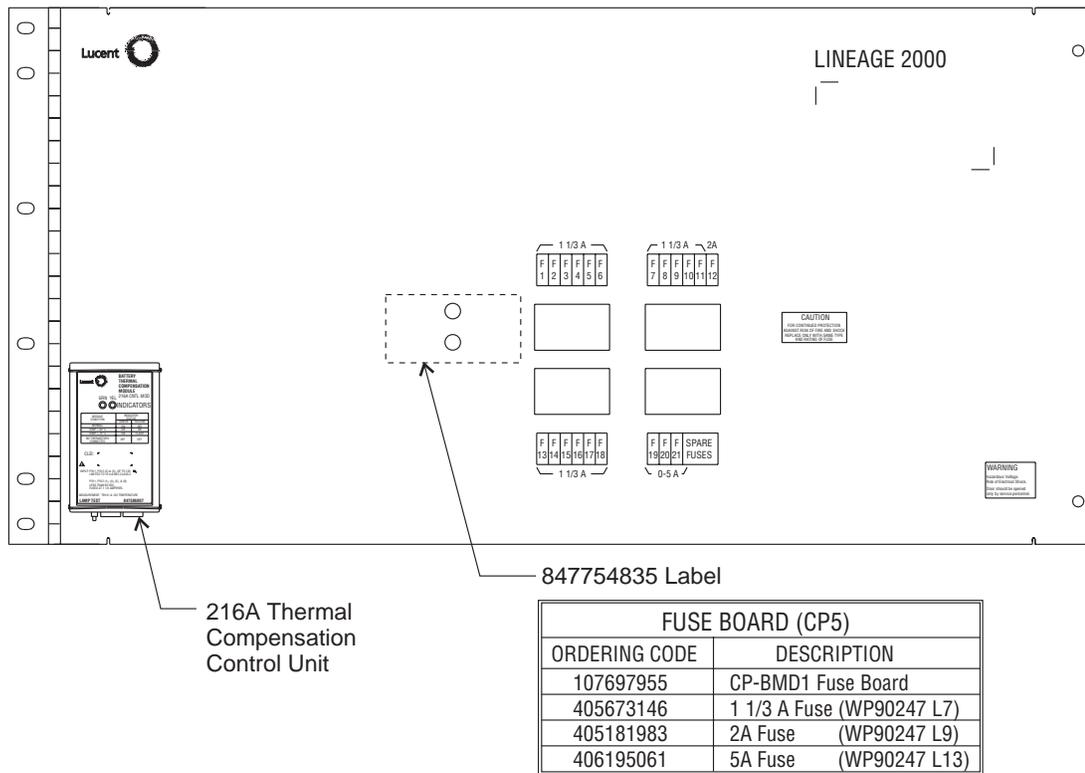

Figure 4-9: Door panel (placement of control unit, option 2)
Mount the VR Module bracket to any one of the available 1/4-20 Pem-nuts in the battery stand upright. Then attach the Terminal Block Assembly Base to the VR Module bracket with the 10-32 screws provided. (See Figure 4-9.)
Option 2: Mount the 216A Control Unit on the distribution door panel (lower left corner) using the adhesive backed Velcro strips provided. Make sure the surface of the distribution door is clean before peeling the backing off the Velcro hooks and affixing to the distribution door. Make sure the back surface of the Terminal Block Assembly is clean before peeling the backing off the Velcro loops and affixing to the Terminal Block Assembly. Mount the Terminal block Assembly on the distribution door. Consider the protrusion of the 216A Control Unit before choosing this option. (See Figure 4-9 for Option 2).
18. Locate the INFORMATION label approximately as shown in Figure 4-9 (option 2) to cover the original label. This INFORMATION label (Comcode 847754835) is for Thermal Slope/Step Compensation Without LVD feature ONLY.